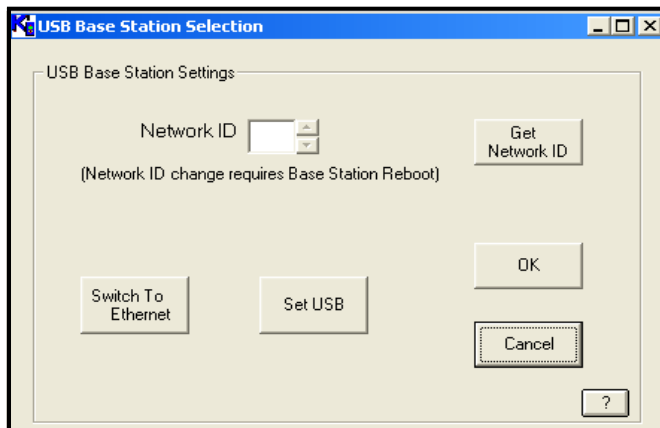

Figure 17: USB Base Station Settings
- a. If you need to change the Base Station settings, click the **Change Base Stations Settings** button. The USB Base Station Settings window opens, as shown in Figure 17 below.